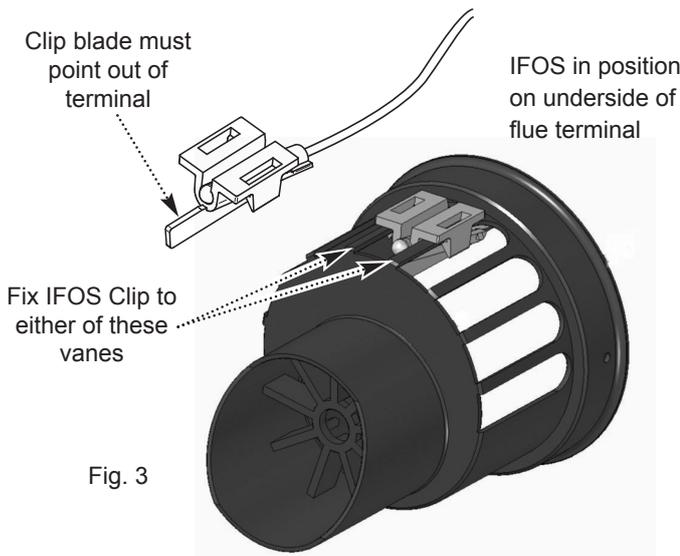

Fig. 3
3. The IFOS must be fixed in the air inlet of the boiler horizontal flue terminal at the time of installation. It **MUST** be positioned as shown (Fig. 3) or to the adjacent vane.
5. Insert the loose end of the IFOS cable into air inlet of the cut or adjusted flue terminal. Fix the clip to one of the vanes on the air inlet as shown (Fig. 3). Ensure that it is firmly in position.